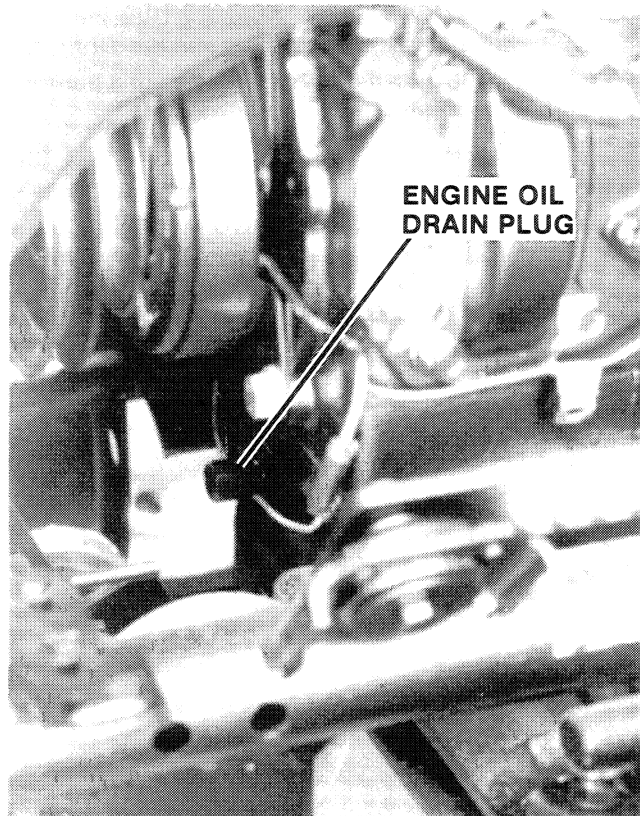

**Figure 3 (10, 12, 14 & 16 H.P.)
4. Remove drain plug located at front of engine, *figure 3* 10, 12, 14 & 16 H.P., *figure 4* 19.5 H.P.